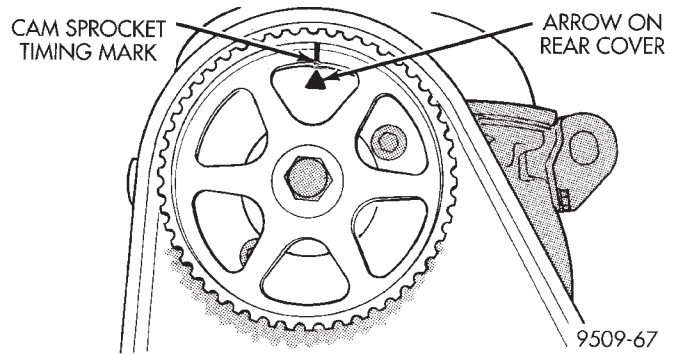

Fig. 58 Camshaft Timing Marks
- Check the timing mark on the camshaft sprocket, it should align with the arrow on the rear belt cover (Fig. 58).